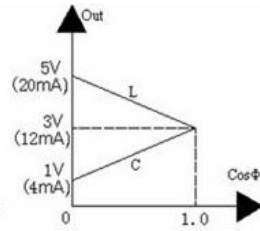

Fig 13, bipolarity
- ①The transducer fixed on the side of the card slot and hook on the mounting rail;
- ②Pull the spring pin down;
- ③Clip the transducer mount on the mounting rail;
- ④Release the spring pin and clip the transmitter on the mounting rail.
- ①4mm diameter hole in the fixed plate according to the position of the screw hole shown in Fig. 13;
- ② Use the screw Φ3.5 to insert into hole and secure it.